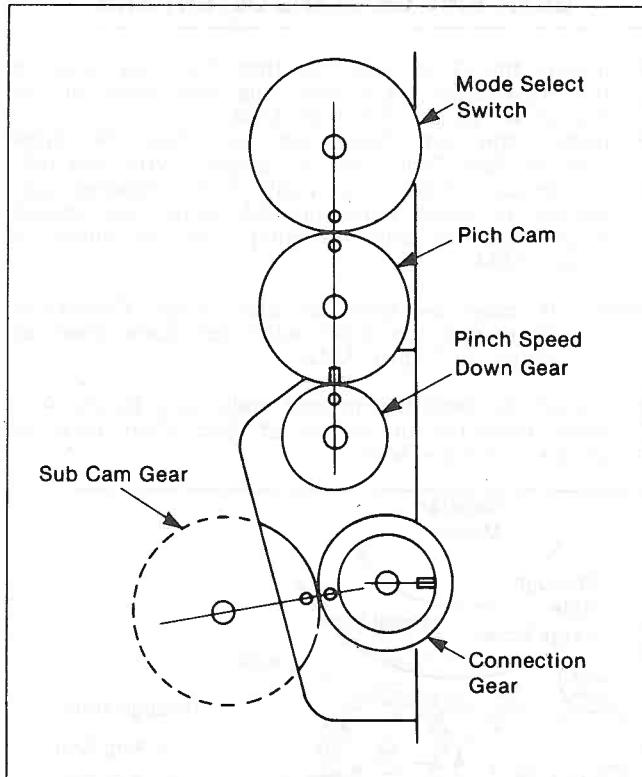
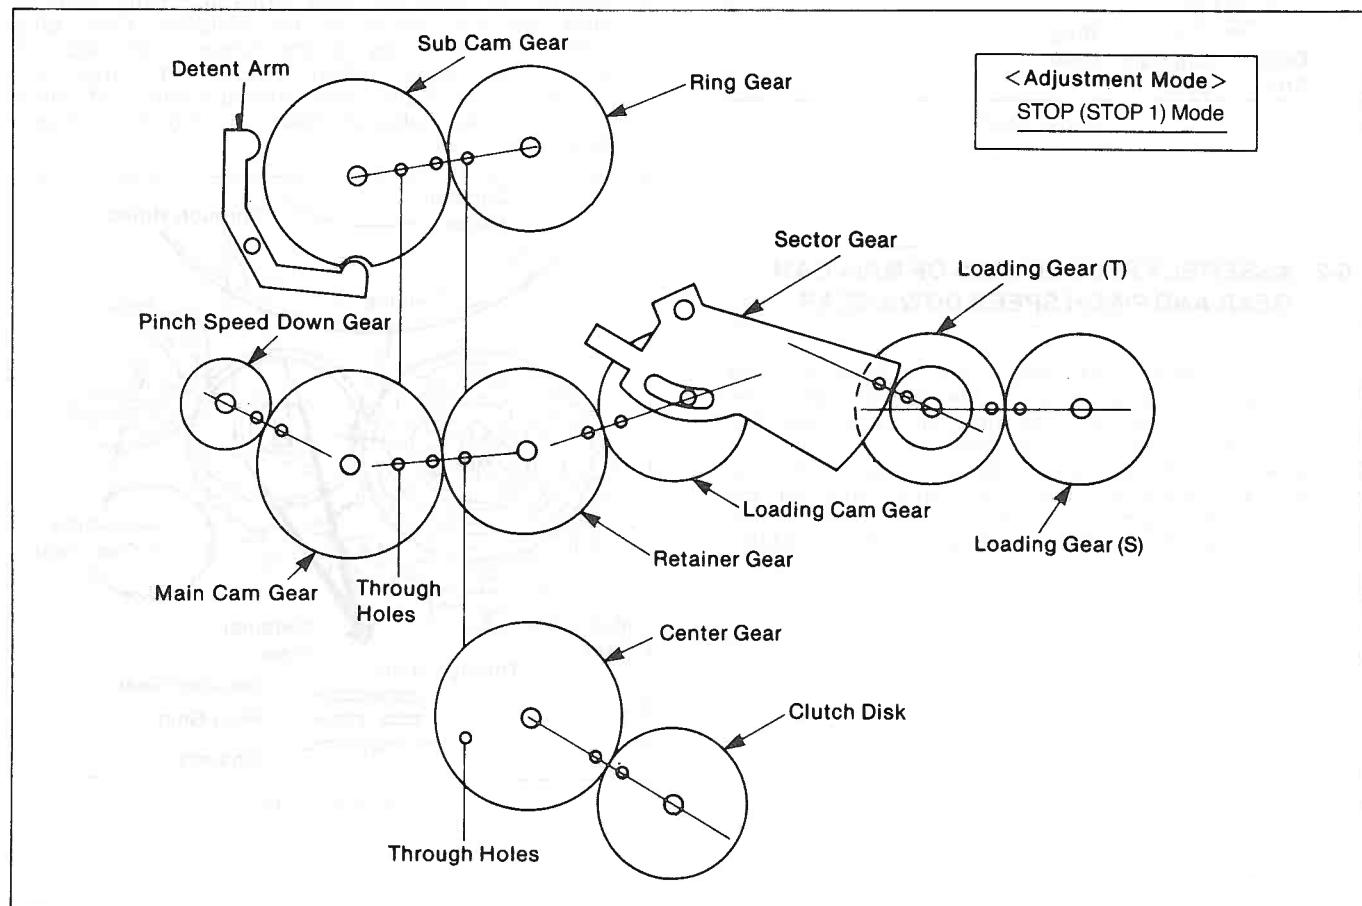

Figure M42 Top View of Overall Mechanical Condition
Figure M43 Top View of Overall Mechanical Condition
The overall mechanical condition (alignment) of bottom and top view are shown in Figure M42 and Figure M43. This mechanical adjustment is performed in STOP mode.
*Note: It may be best to also align Connection Gear (on top side) with Sub Cam Gear as shown in Figure M42.